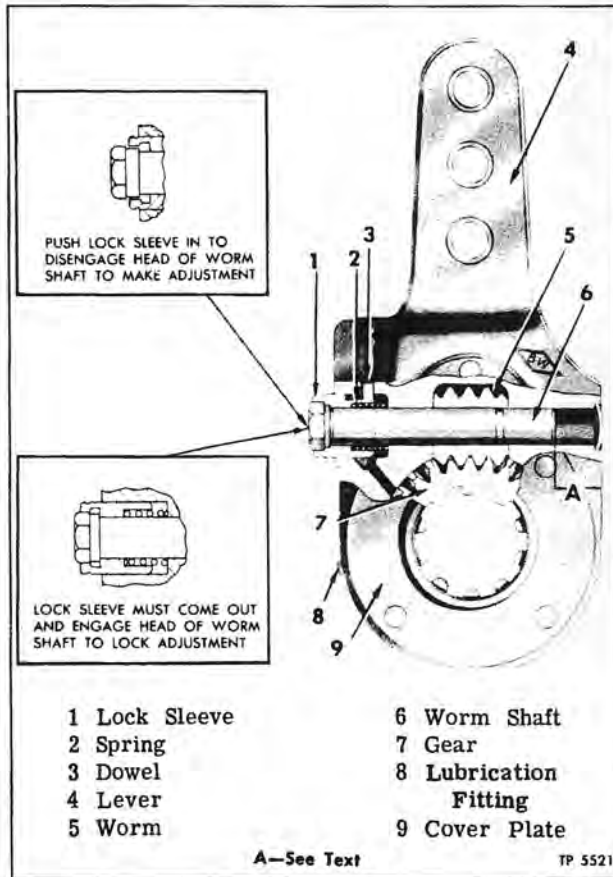

Figure 28—Slack Adjuster (Typical)
Slack adjusters function as adjustable levers and provide a quick and easy method of adjusting the brakes to compensate for normal lining wear. Positive locking type slack adjusters are used at front and rear brakes. Construction of both front and rear slack adjusters is shown in figure 28.
#### Disassembly (Fig. 28)
### Assembly (Fig. 28)
3. Enter small end of worm shaft through hole in body and worm. Press worm shaft into worm and body, making sure groove in lock sleeve is aligned with pin in body. Press shaft in until distance from small end of shaft to edge of body (A, fig. 28) is as follows: Front - 5/8" - Rear - 9/16". Install welch plug in worm shaft bore.